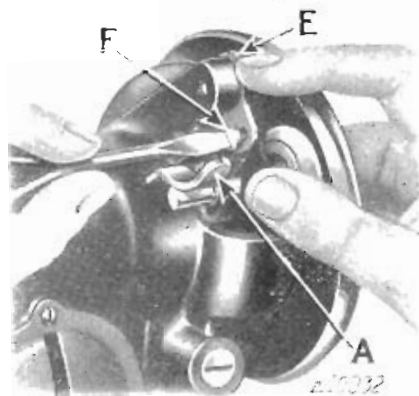

FIG. 51. ADJUSTMENT OF BOBBIN WINDER
If the pressure of the bobbin winder pulley, against the hub of the balance wheel, is insufficient for winding the bobbin, press down the bobbin winder until the bobbin winder stop latch (A) drops down and holds it, then loosen the bobbin winder tension bracket screw (F). With the forefinger, push back the upper end of the bobbin winder tripping arm (E) as far as it will go, as shown in Fig. 51 and, at the same time, press the bobbin winder pulley against the hub of the balance wheel, then tighten the bracket screw (F).